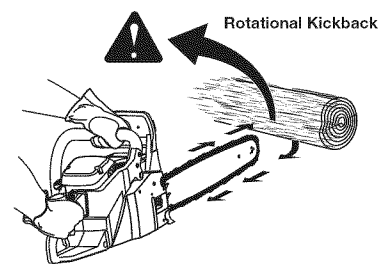

Fig. 1
- **Rotational Kickback** can happen when the upper tip of the guide bar contacts an object while the chain is moving (Fig. 1 & 2). This can cause the chain to dig into the object and momentarily stop moving. The guide bar is then kicked up and back toward the operator in a lightning-fast reverse reaction.
- **DO NOT** make cuts with the tip of the guide bar (Fig. 1).